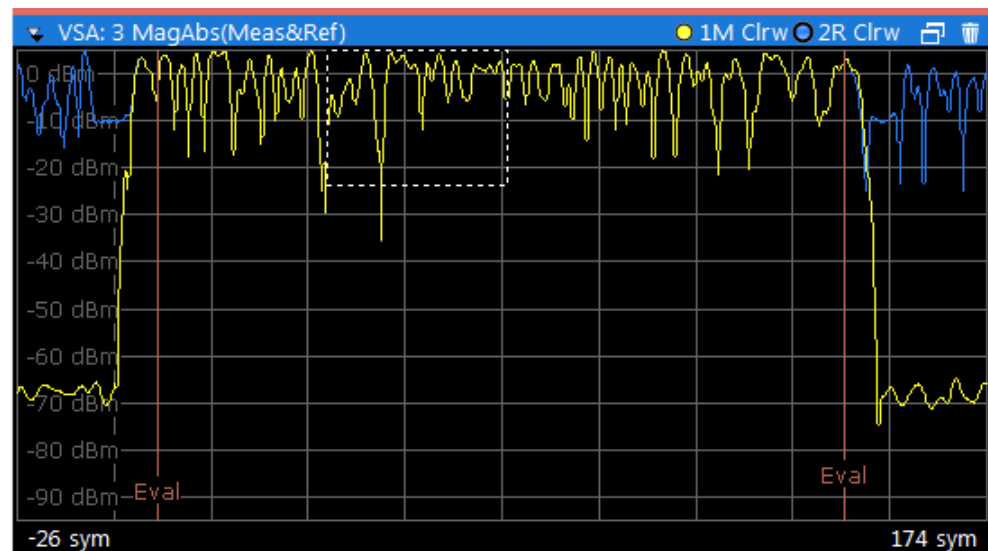

Figure 8-12: Zooming
4. Select "Clear Write" as the "Trace Mode" and "Evaluation: Ref". This adds a second trace to your result display. This trace is the ideal reference signal that can now be compared to the measurement signal (see Figure 8-12).
5. To view the traces in more detail zoom into the display using the "Single Zoom" icon in the toolbar (see the dotted rectangle in Figure 8-12).